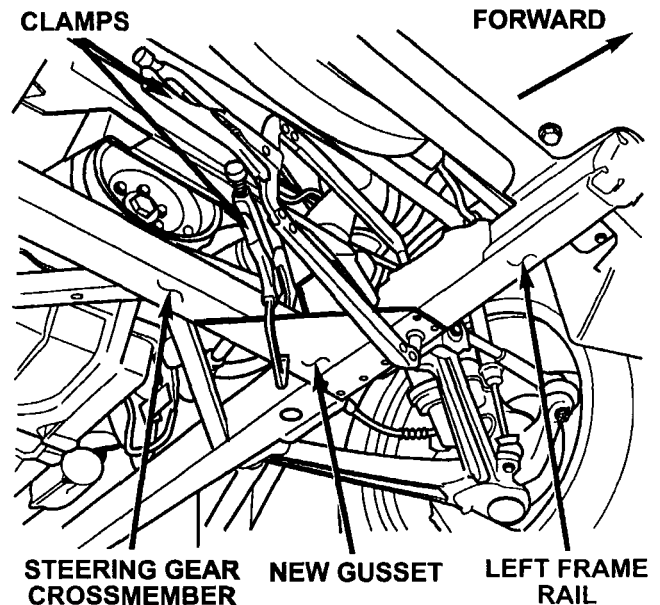

Figure 11 – Left Side Shown
6. Position and clamp the new left side gusset into place (Figure 11).